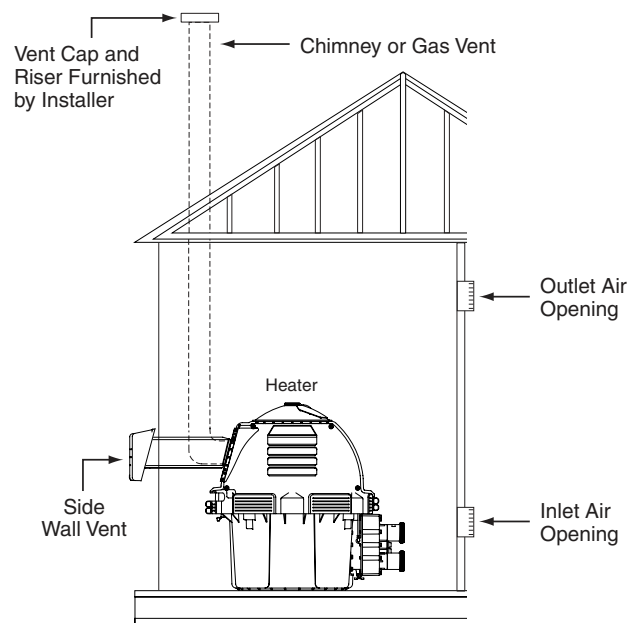

Figure 16.
**HORIZONTAL OR VERTICAL VENTING - POSITIVE PRESSURE** (See Figures 16, 17, and 18)**(Category III)**
6. **Vent Termination – Vertical** (See Figures 16 and 17), for height of vent termination above the roof. Use an "Approved" vent terminal specified by local and national codes and your manufacturer's instructions. A roof termination must be vertical. In Canada, the Vent Cap location shall have a minimum clearance of 4 feet (1.2M) horizontally from electric meters, gas meters, regulators, and relief openings.